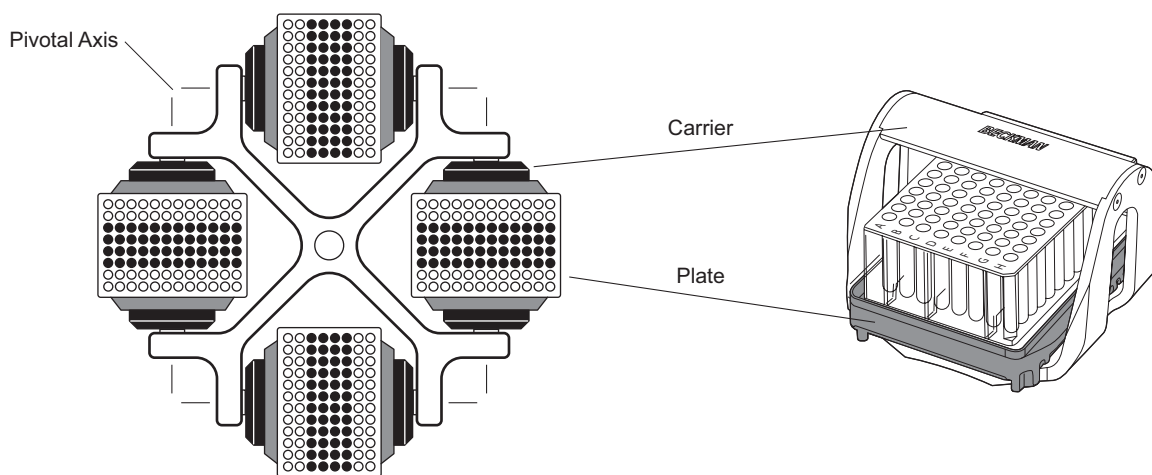

Figure 5-2. Examples of Correctly and Incorrectly Loaded Buckets and Carriers.
- The buckets or carriers must be loaded symmetrically with respect to their pivotal axes (the pivotal axis runs parallel to the crossbar, see Figure 5-2).
Place each tube in an adapter so that its weight is balanced by a tube in a diametrically opposite position across the pivotal axis in the same adapter. Adapters placed in opposing buckets should also be filled the same way (see Figure 5-2). If you must run only one tube in an adapter, be sure this tube rests over the bucket's pivotal axis.